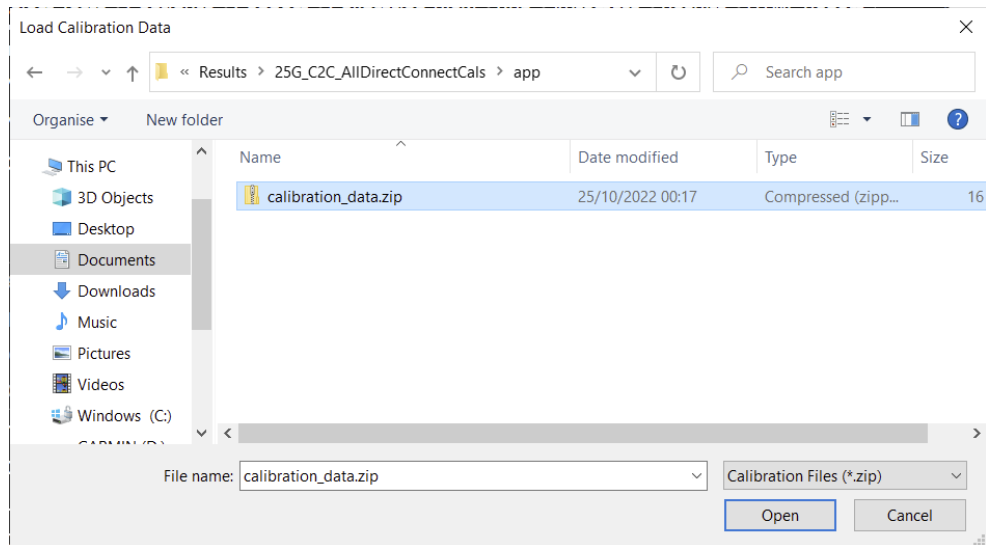

Figure 14 Selecting the Calibration Data Zip file from the target directory
- 3 Select the required data file and click **Open** (Figure 14).